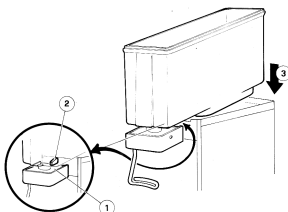

figure 8
- 4 - Fit the bowl gasket to the evaporator. Note: the largest brim of the gasket must face against the drip plate (see figure 8).
**CADDY 5** : be sure first that the faucet top (1) is under the tooth jutting (2) out of the drip plate (see figure 8).